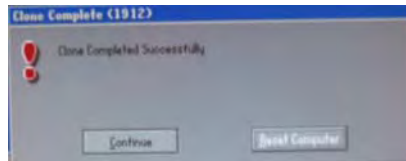

Figure 1-22. Ghost Clone Complete dialog
6. Click on **OK** to continue with ghost CD #2. A "Clone Complete" popup window is displayed when the restore is finished (Figure 1-22).